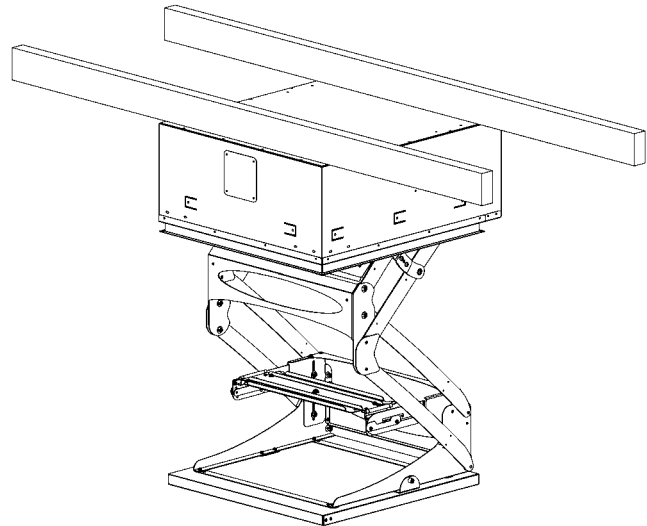

Figure 2. Suspend the Unit
2. Suspend the lift at least 3 1/2 feet high from a suitable structure [i.e. saw horses, ladders, or tables (see Figure 2)].